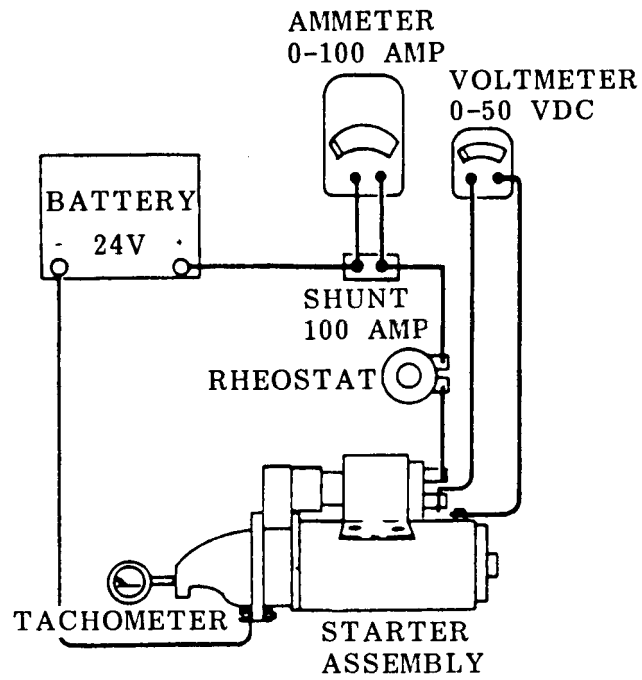

Figure 7-4. Starter Assembly Motoring Test Circuit.
(3) Conduct starter assembly motoring test as follows:
- (b) Install starter into motoring test circuit shown in figure 7-4.